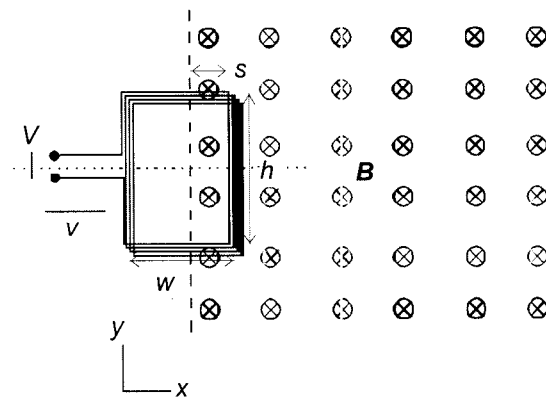

Figure 5.1
5. a) A rectangular coil of  $N$  turns, having dimensions  $w \times h$ , moves into a magnetic field at a constant velocity  $v$ , as illustrated in Figure 5.1. The flux density is uniform with a value  $B$  up to a boundary, beyond which it is zero, and is perpendicular to the plane of the coil. The terminals of the coil are open circuit as shown. The distance  $s(t)$  indicates the distance to which the coil has extended into the field region. For  $N = 20$ ,  $w = 5$  cm and  $h = 8$  cm,  $B = 2$  T,  $v = 2$  m/s, and  $0 < s < 5$  cm, calculate the voltage generated across the output terminals. [8]